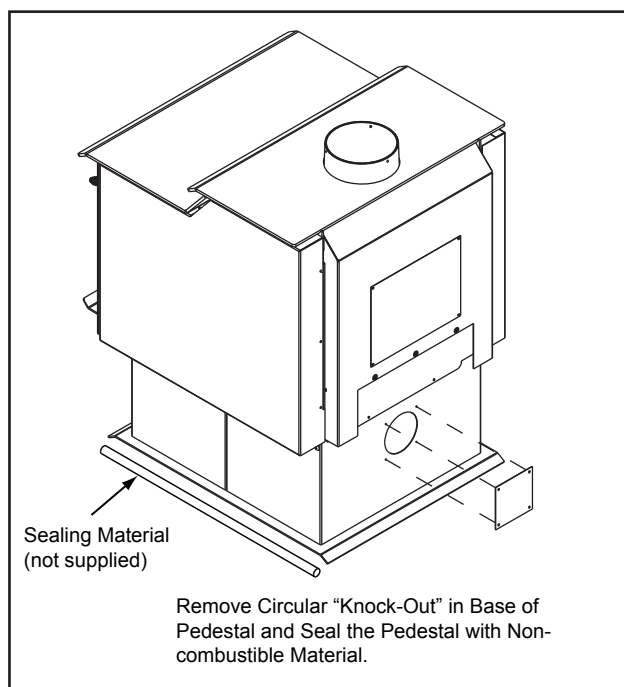

Figure 39.2 - Alternate Floor Installation
1. **Rear:** Remove the access cover on the back of the pedestal and discard. **Figure 39.2.**
If that is the case, follow the instructions for a rear installation install the flex pipe to the rear of the pedestal and remove the circular “Knock-Out” in the base of the pedestal. You must seal off the pedestal with non-combustible material (not supplied). The goal is to seal the pedestal so no room air can leak into the pedestal and to seal for cold air infiltration. **Figure 39.2.**